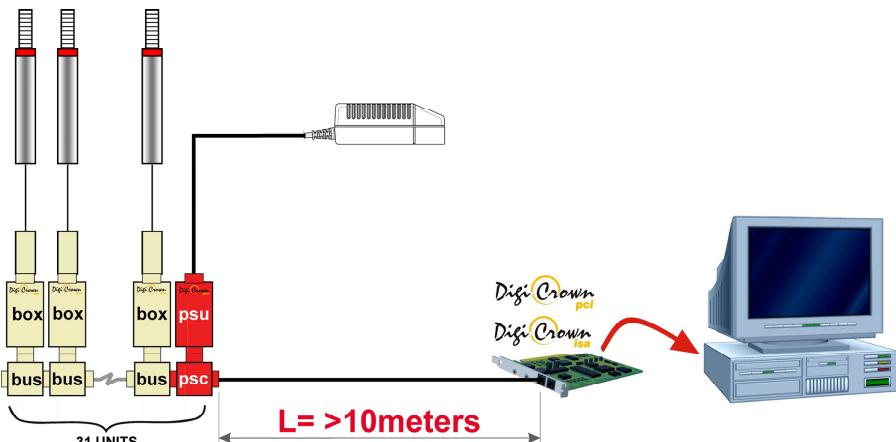

Fig. 3
- the power supply generated by the *DigiCrown PCI/ISA* modules (RS-485) is insufficient for a long cable: a **psu** module is installed in order to cope with the voltage drops (see example reported on Fig. 3).